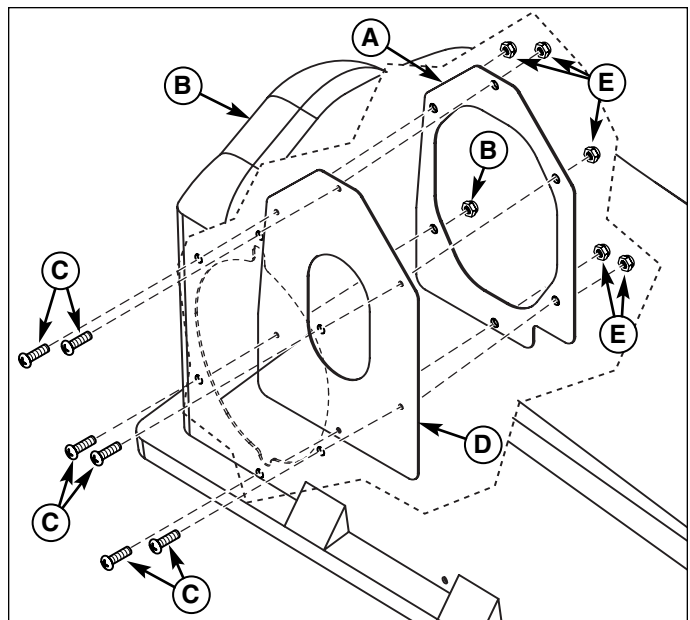

Figure 4. Install Seal and Cover Plate
- Inside grass catcher cover (B, Figure 4) place the seal (D), and cover plate (A). Secure using #10-24 x 3/4 screws (C), and #10-24 locknuts (D).